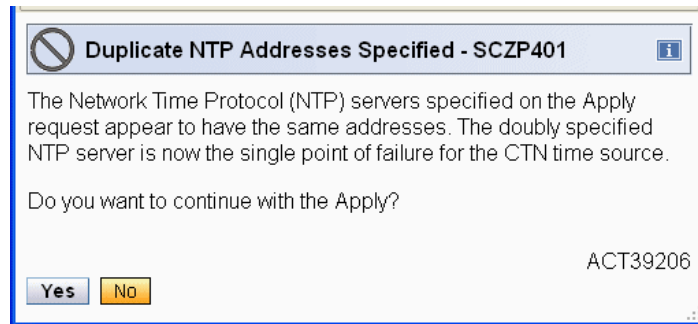

Figure 1-38 Message ACT39206 - Duplicate IP address
12. In case the same IP address has been configured for both NTP servers, message ACT39206 displays (Figure 1-38 on page 24). Even if this is a valid configuration, it is a good idea to configure a separate NTP server for redundancy.